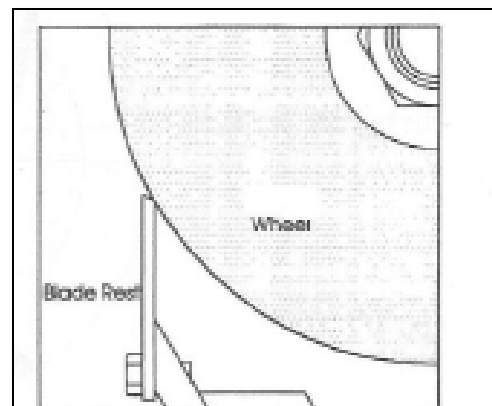

Figure 4
1. Hold the grinding wheel close to the blade rest (Fig.4);